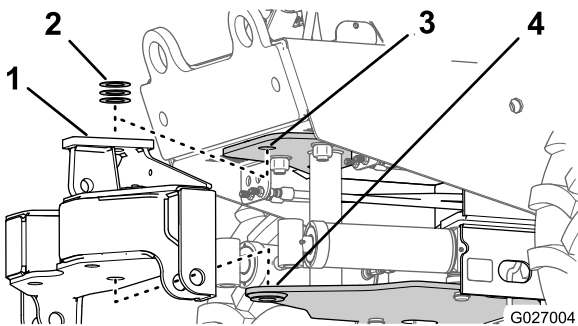

Figure 24
9. Align the pivot frame between the upper and lower plates of the mounting frame, and align the pivot holes in the pivot and mounting frames (Figure 24).
10. Insert the washers that you determined in step 5 between the upper plate of the mounting frame and the top of the pivot frame (Figure 24).